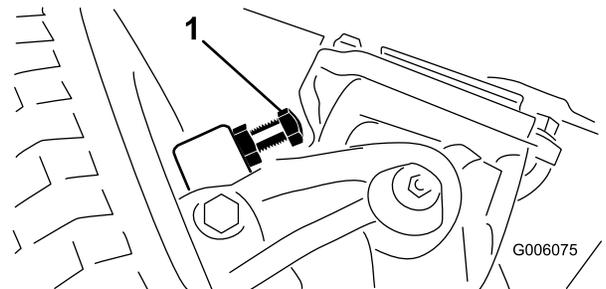

Figure 70
1. Thread the bolts in or out until you attain a clearance of 0.23 cm (0.090 inch); refer to Figure 70.